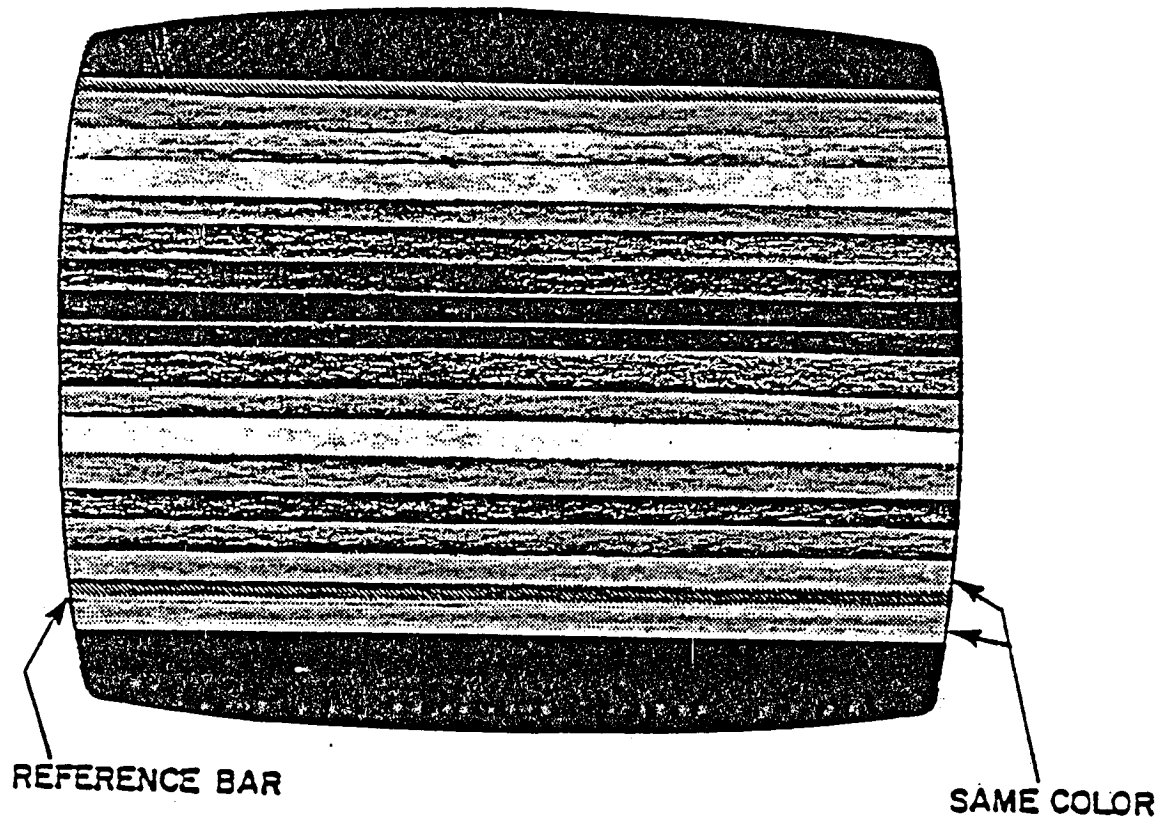

Figure 3-3. Color Bar Test Screen
This test verifies and allows for adjustment to the color circuitry. Enter the command letter C and press RETURN to activate this test. Figure 3-3 is a black and white representation of what your television display screen should look like.
3. Adjust RF modulator for correct Color Bar Test Screen (See Page 3-6, Figure 3-3).